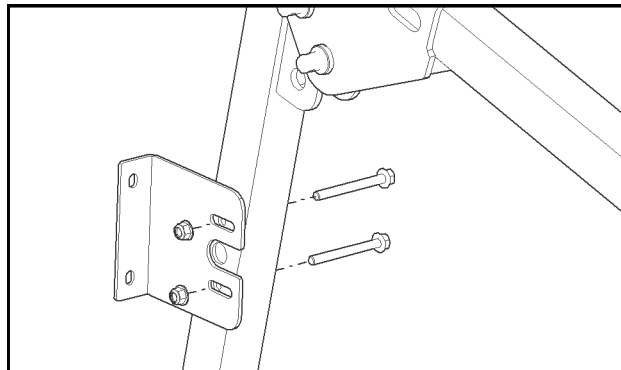

Fig. 2.1 (Assemble Brackets to ROPS)
- 2.1 See fig. 2.1. Install a ROPS Bracket onto the outside of the ROPS through the holes for the rear lights, with the bolts on the inside of the ROPS. Leave loose.